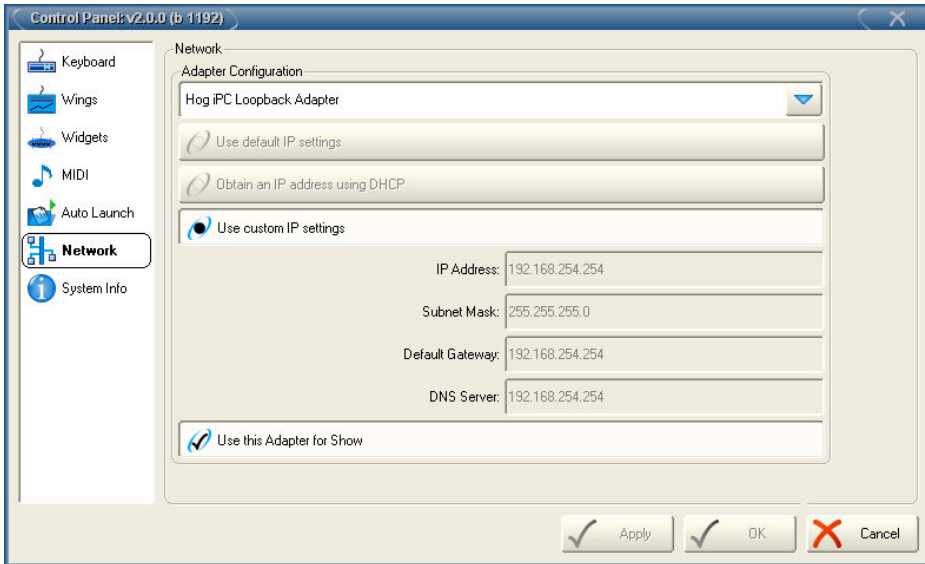

Figure 12.7. The Network pane of the Control Panel for a Hog IPC
1. Setup → Control Panel → Network : open the Network pane of the Control Panel; see *Figure 12.7, “The Network pane of the Control Panel for a Hog iPC”*.